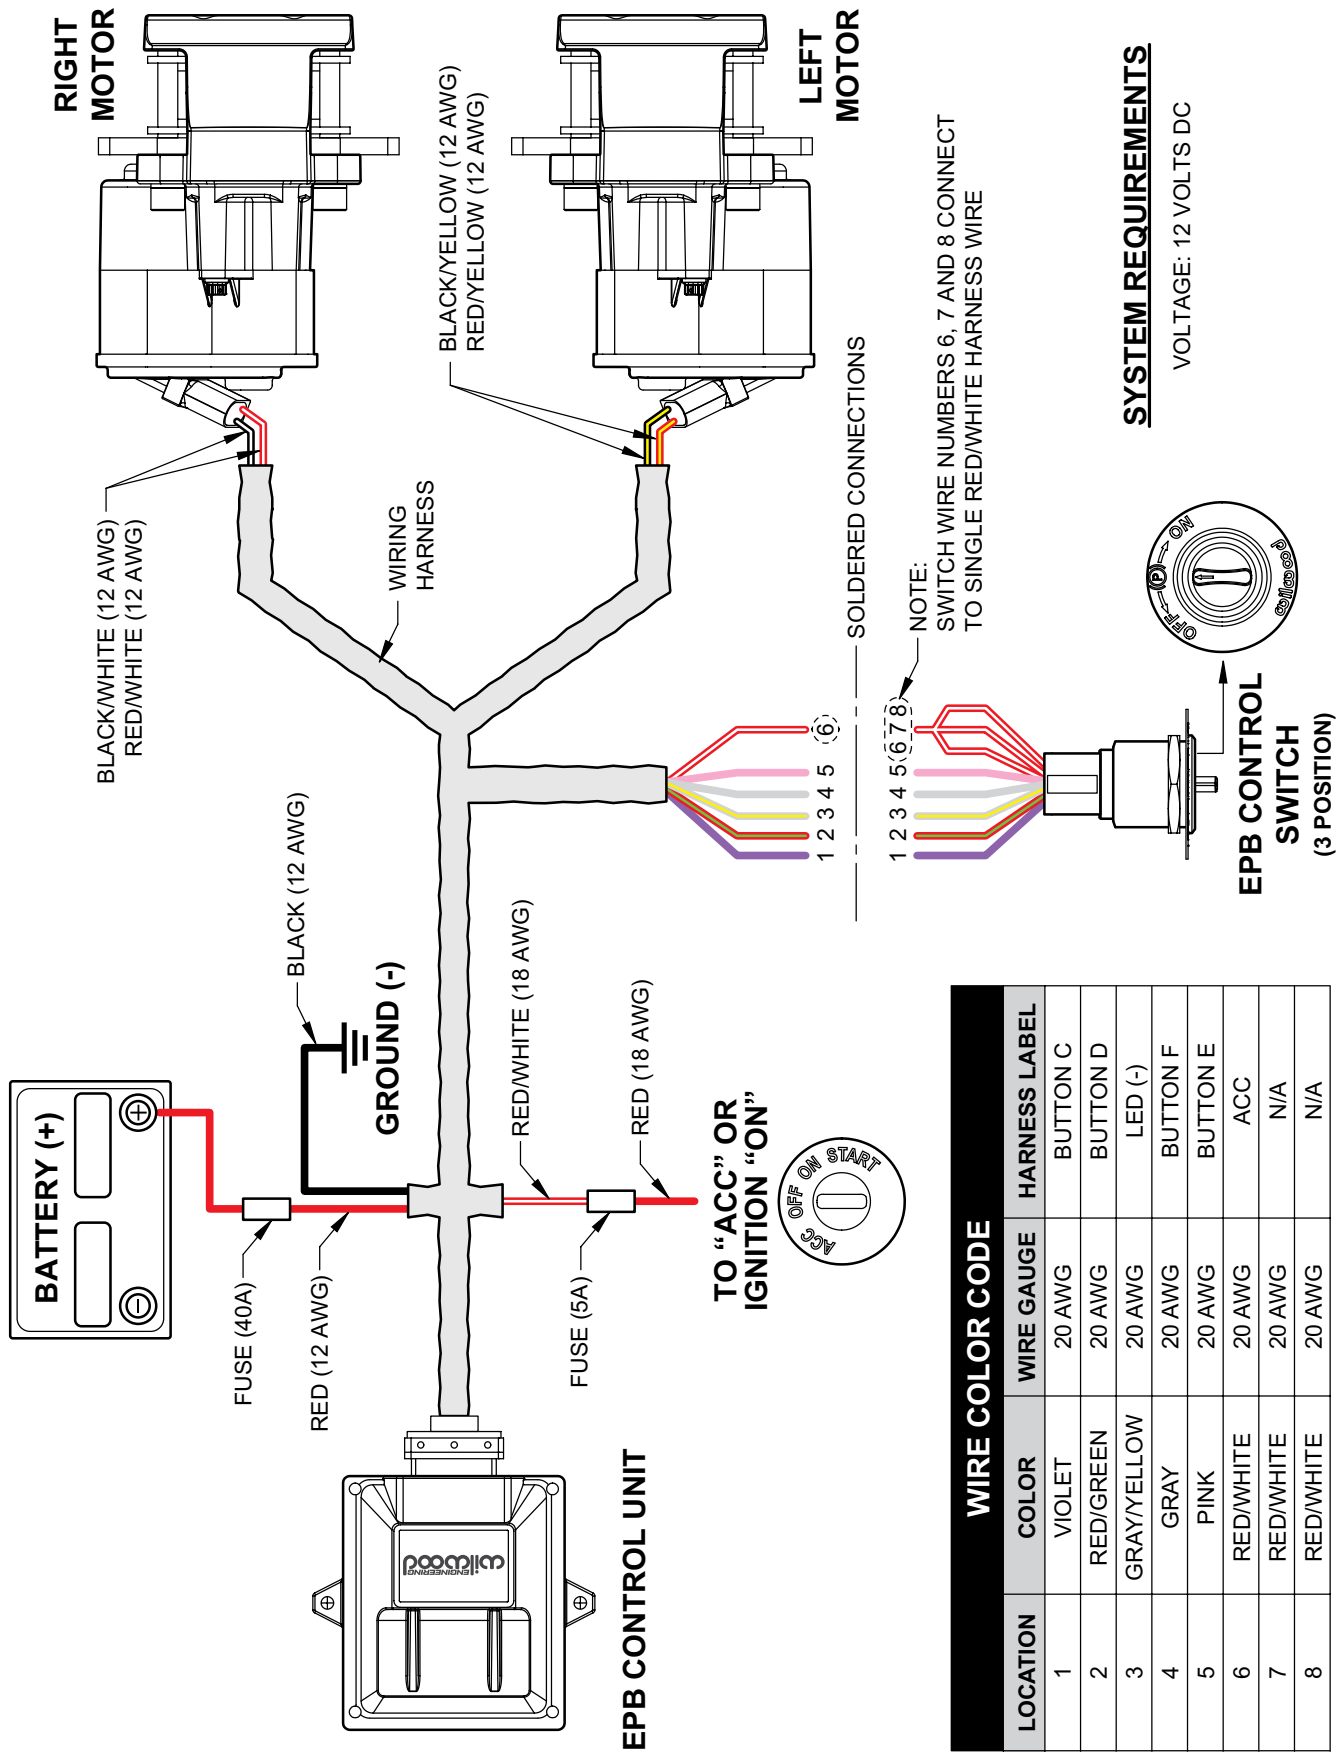

Figure 4. EPB Wiring Diagram
- EPB WIRING HARNESS - All wiring harness leads are labeled – refer to wiring diagram, Figure 4. Carefully route harness cables/wires to prevent contact with moving or rotating components and away from heat sources and pinch points. **CAUTION:** Avoid routing harness near alternator or ignition system components. **NOTE:** Wilwood EPB harness is designed for use in many different vehicle applications and it is the installer's responsibility to properly route cables/wires and ensure adequate clearance and retention for EPB components.
Wiring Installation - Refer to wiring diagram, Figure 4